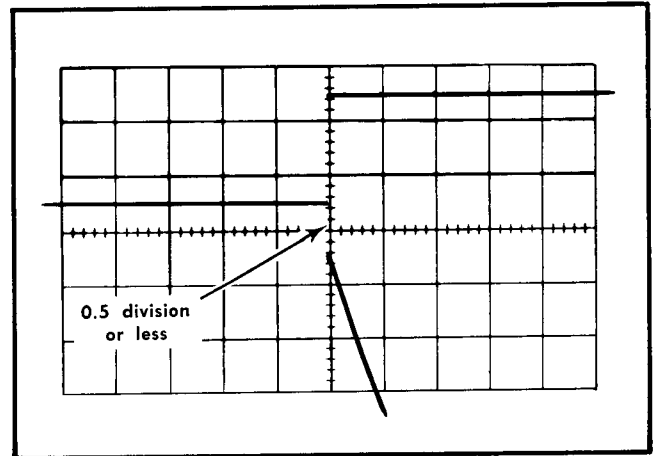

Fig. 5-30. Typical CRT display showing correct calibrator repetition rate.
- Position the display so the tips of the markers fall just below the rising portions of the square wave (see Fig. 5-30).
- CHECK—Separation between Calibrator waveform leading edge and the marker leading edge not to exceed 0.5 division (0.5% accuracy; see Fig. 5-30).